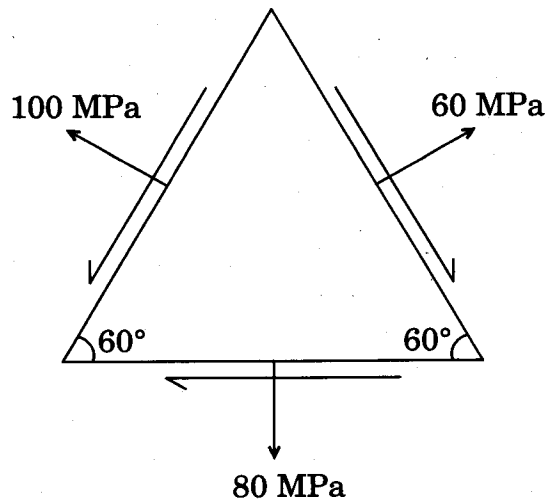

Figure 4
- (b) In a strained body the normal stresses on three planes inclined as shown in Figure 4 are 60 MPa (Tensile), 80 MPa (Tensile) and 100 MPa. Determine the shear stresses acting on these planes. Also find the principal stresses.